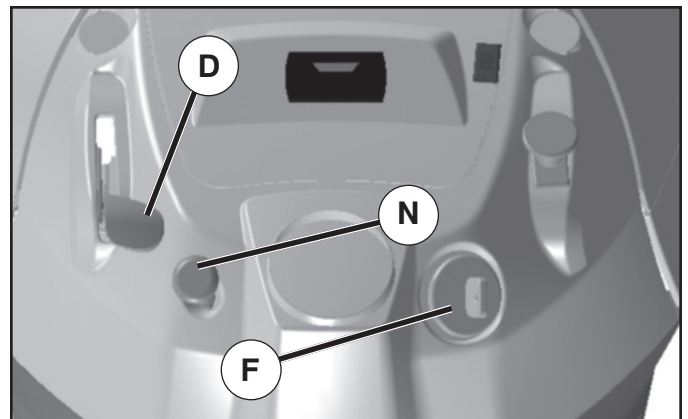

Fig. 19
- Move throttle control (D) between half and full speed (fast) position.
- Turn ignition key (F) to "STOP" position and remove key. Always remove key when leaving tractor to prevent unauthorized use.
### TO USE THROTTLE CONTROL (D) (See Fig. 19)
### TO USE CHOKE CONTROL (N) (See Fig. 19)